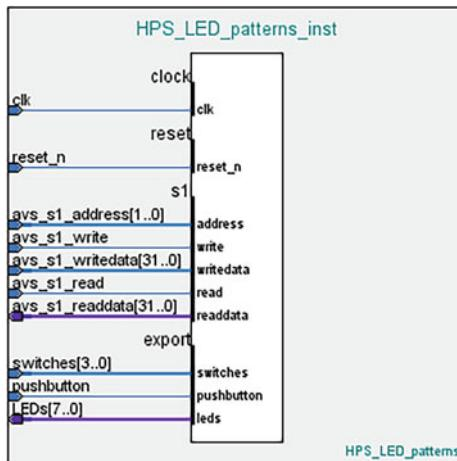

Fig. 6.4: HPS_LED_Patterns component in Platform Designer with signals interpreted correctly
- d: Click on the **Block Symbol tab**. You should see all the signals in your entity that have now been interpreted correctly as shown in Fig. 6.4.